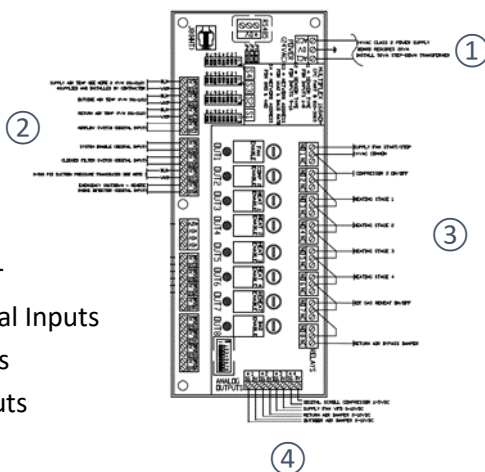
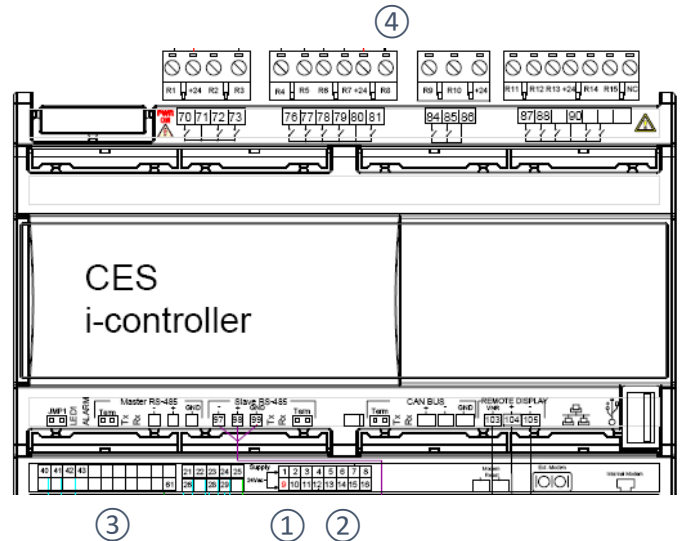

Figure 6. Emerson Multi-Flex 88AO board
Figure 8. Flö i-Controller
The MF88AO board has four analog outputs. Each output will have a white signal wire connected to SG point and black common wire connected to the 0V point. *See Figure 6.* I-Controller point 21 – 30 are the analog outputs for devices requiring an analog 0-10V run signal. *See Figure 8.*
MF88AO has eight relay outputs. *See Figure 6.* Each output terminal has a normally open (NO) signal and a +24VAC common (C) wire connection.
After the +24VAC common connections are terminated, using Table 5, transfer each control signal point to the corresponding i-Controller output point located on pins 70 - 93. *See Figure 8.* Transfer one signal wire at a time from the old controller to the new point location on the i-Controller.